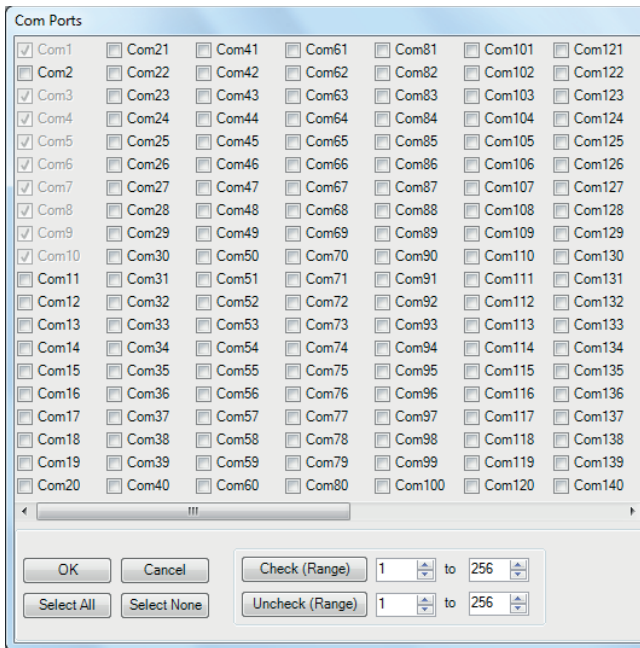

Fig. 84
A dialog box will open. See Fig. 84.
6. In the dialog box (see Fig. 84) it is possible to check which COM ports on the target computer are to be used by the "CPR Manager" program as virtual COM ports for the devices. After checking the required COM ports, it is necessary to confirm the selection with the OK button.